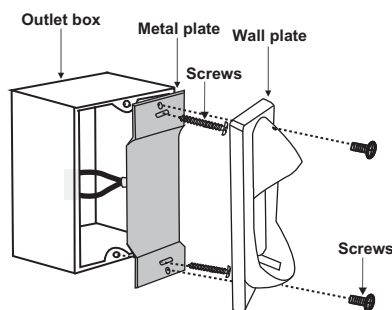

Figure 19
Step 2. Install the metal plate and wall plate to the existing wall outlet box with 4 screws provided. (Fig. 19)